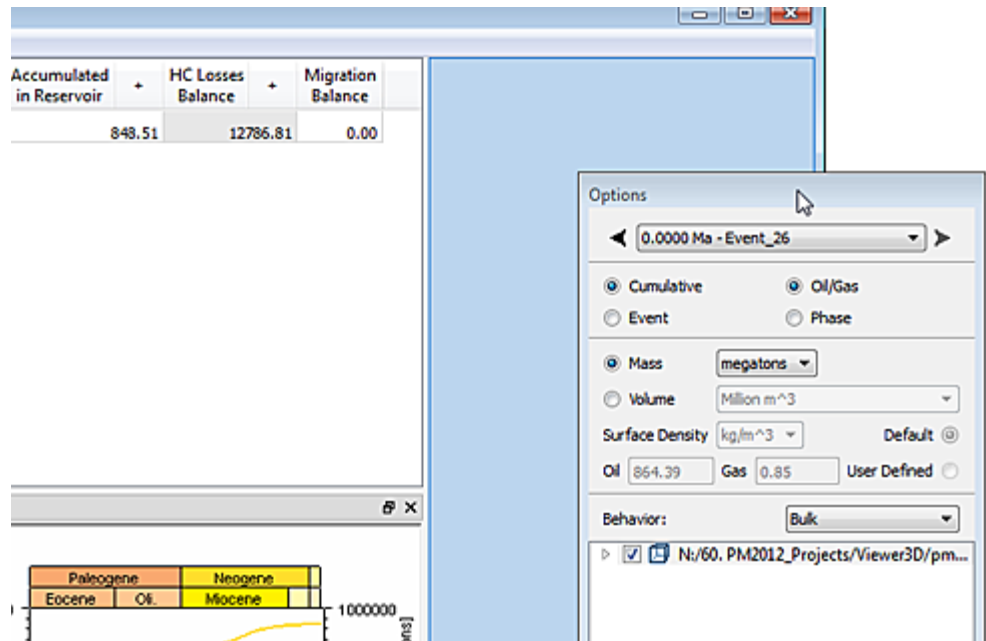

Fig. 2-5 Dragging a pane to a different location and re-docking it
- To move a pane to a different location, click on the title bar and drag the pane over the GUI. The blue background indicates where the pane will dock (see Fig. 2-5). Release the mouse button to dock the pane.